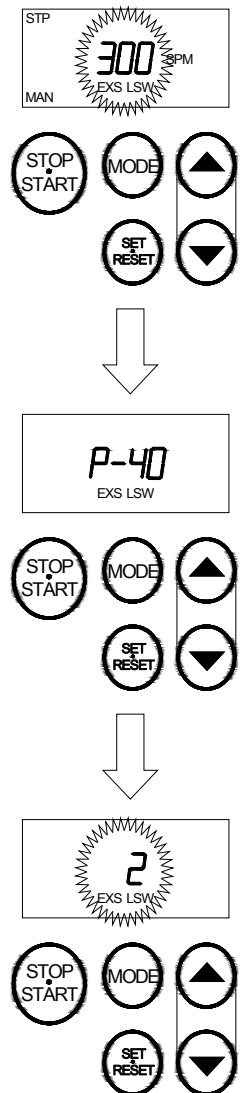

Fig. 12-5
- 1) Press the TOUCH KEY stop, start. Pump operation stops. The indication on the LCD is as shown at the upper stage of Fig.12-5.
- 2) Press the TOUCH KEY set, reset and the TOUCH key \triangle simultaneously, then “P-XX” is displayed on the LCD. Press the TOUCH KEY $\triangle \nabla$ to adjust the display setting for the number of strokes to the parameter No. “P-40”, or adjust the flashing time setting for the ON/OFF time to the parameter No. “P-41”. (The indication on the LCD should be as shown at the middle stage of Fig.12-5.)
- 3) Press the TOUCH KEY set, reset, then the indication on the LCD becomes as shown on the lower stage of Fig.12-5, and the number flashers.